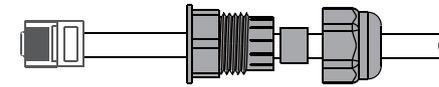

Figure 4.5-4 Remotely close the cable connection
**Step 3-2 For Remote Shutdown.** Run the cable through the steel plate . Then wire from pins 5 and 6. Table 4.6-1 describes the 6-pin port definition,Wiring is shown in Figure 4.5-4.